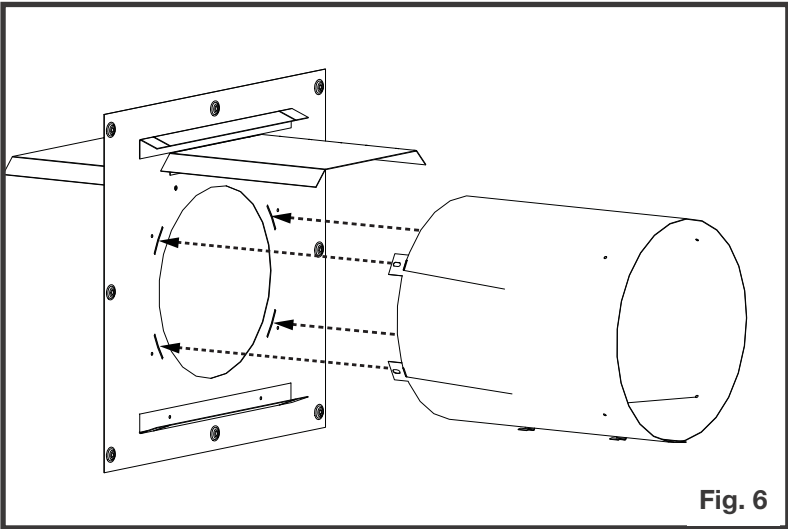

Fig. 6
- 6. Insert the vent sleeve tabs into the firestop spacer slots then bend the tabs over to secure to the firestop spacer along with 4 supplied fasteners (Figure 6).